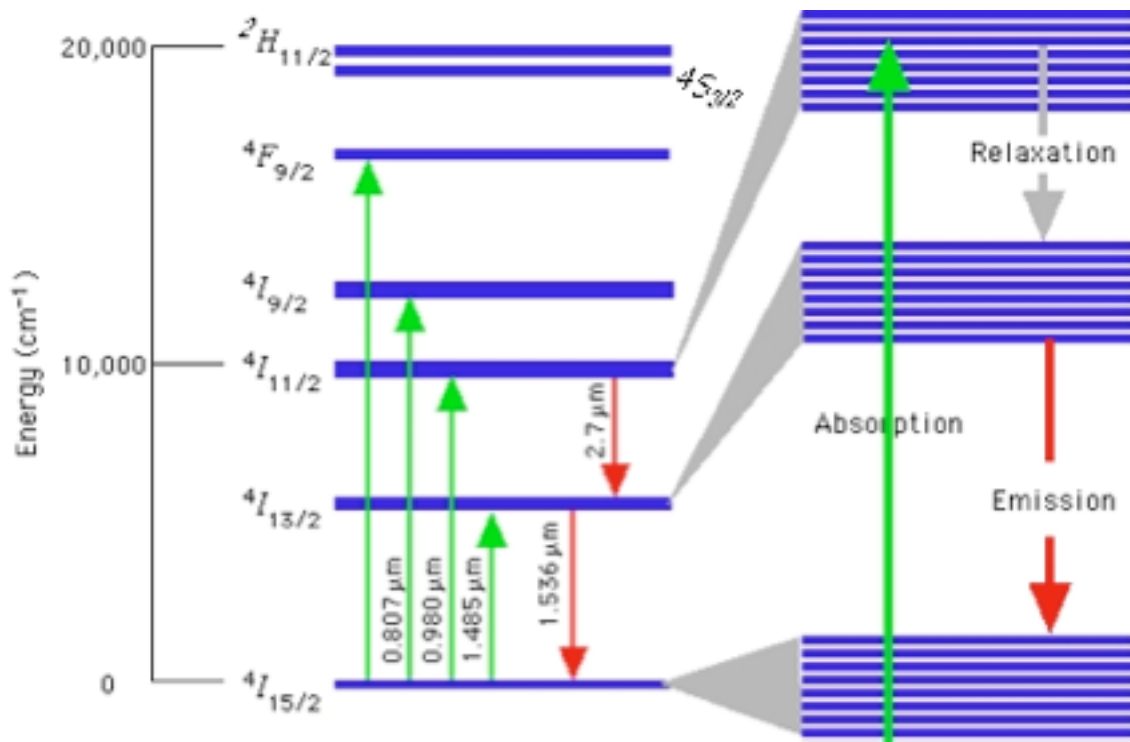
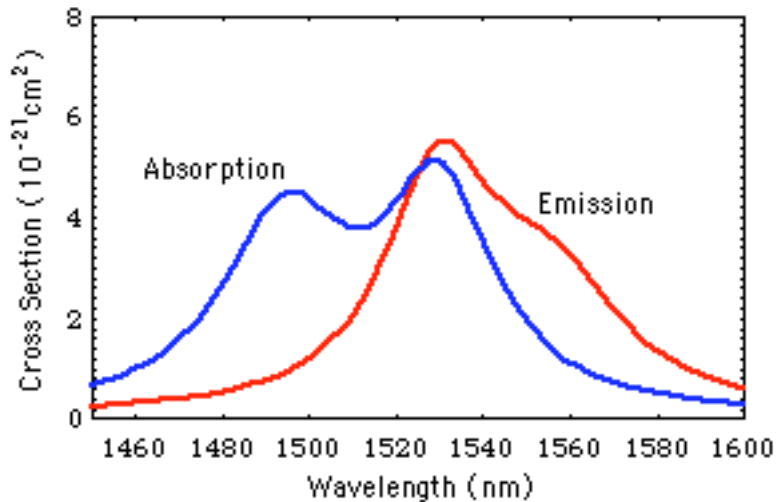

Fig. 2. Detailed energy level scheme
Fig. 3. Emission and absorption spectrum
The interaction with the host ions is small and just leads to a splitting of the $(2J+1)$ degenerate levels, as shown for three levels in Figure 2. Although comparably small, this splitting allows amplification and lasing between the two lowest states. The relative populations of the sublevels within each level is governed by the Boltzmann distribution at a given temperature. For that reason, the absorption and emission spectra are not identical as seen in Figure 3 and gain can be achieved on the low energy (long wavelength) side by pumping in the high energy (short wavelength) side of the absorption. We have effectively a quasi-four level system.
5. Turn on the current source by pushing the ‘power’ button, followed by the LDD button, similarly to how the temperature controller was powered. After the initial value is displayed (should read zero at this point), turn the output knob until 30.0mA is driven through the laser. The OSA should now show a fairly flat range between 1530nm and 1570nm, with two peaks, as shown in Figure 3.